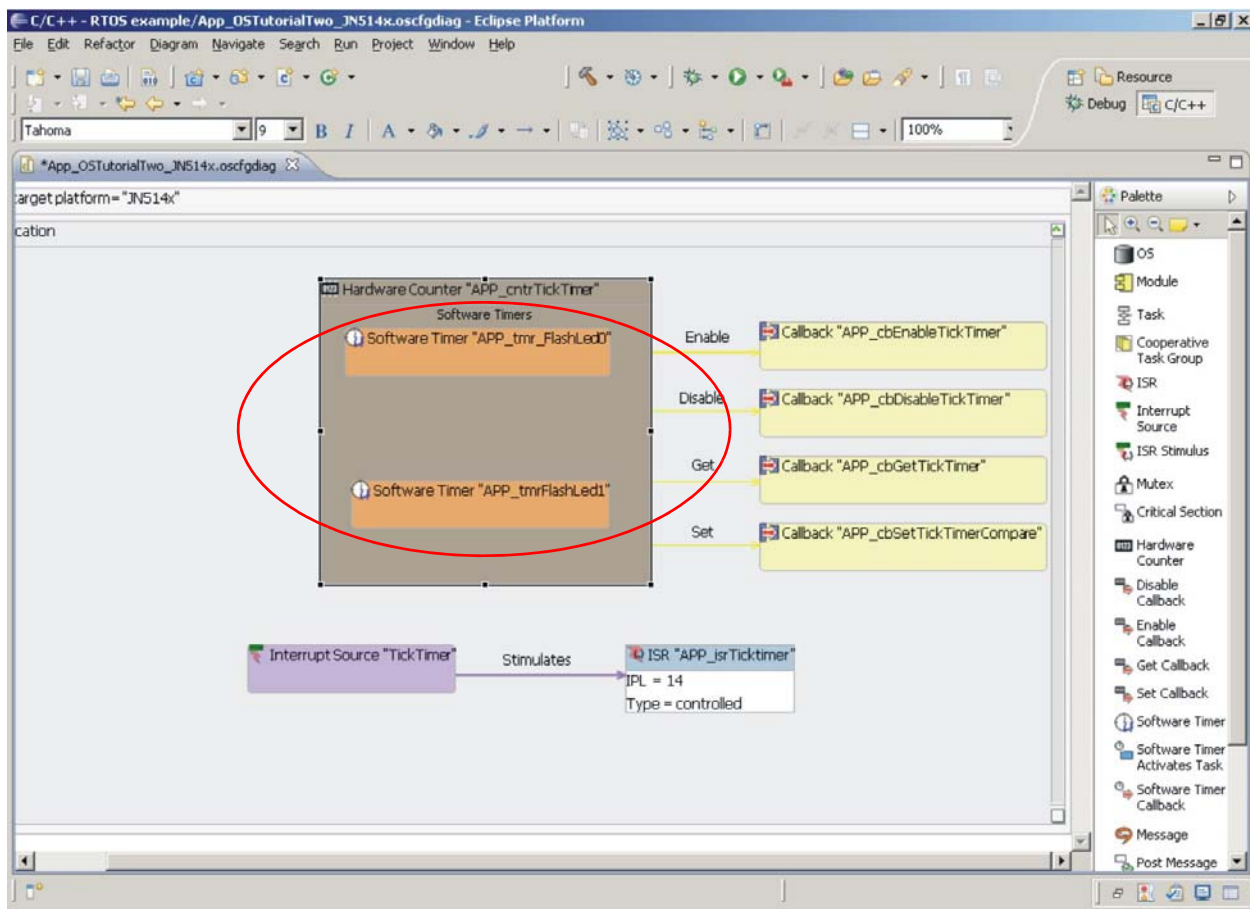

Figure 21: Software Timers
Step 7 Name the timer **APP_tmrFlashLed0** and then add another software timer next to it, named **APP_tmrFlashLed1**. Rearrange the diagram as shown in Figure 21 below.